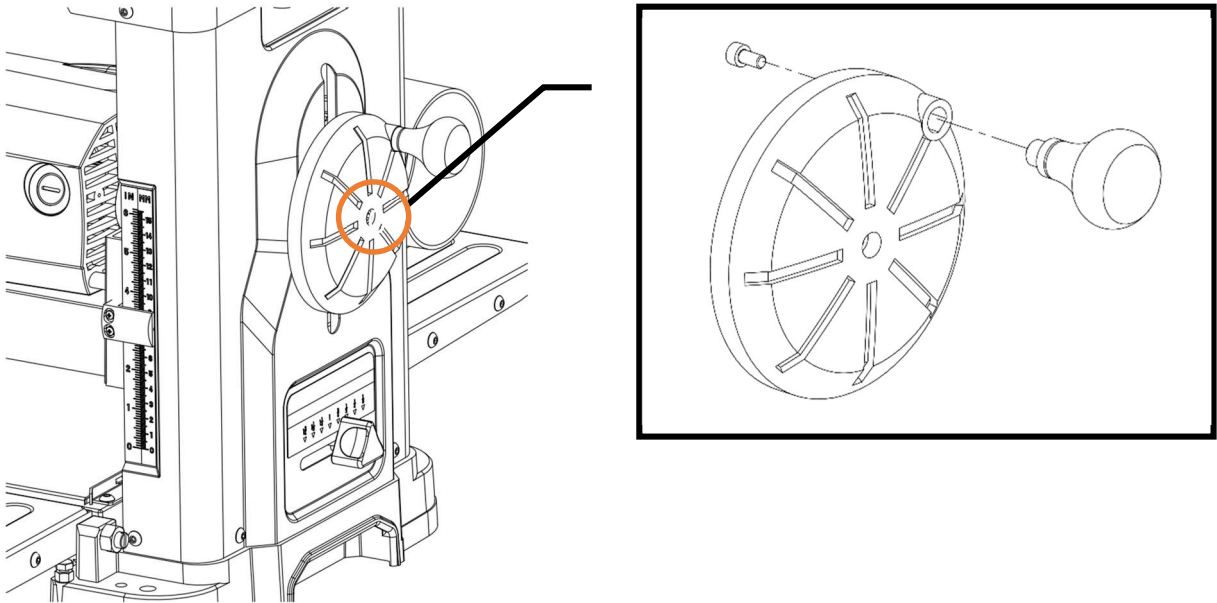

FIG 1
2. Install the knob on the handwheel by using the provided screw. Then put whole handwheel assembly over the shaft and tighten. SEE FIG 1.